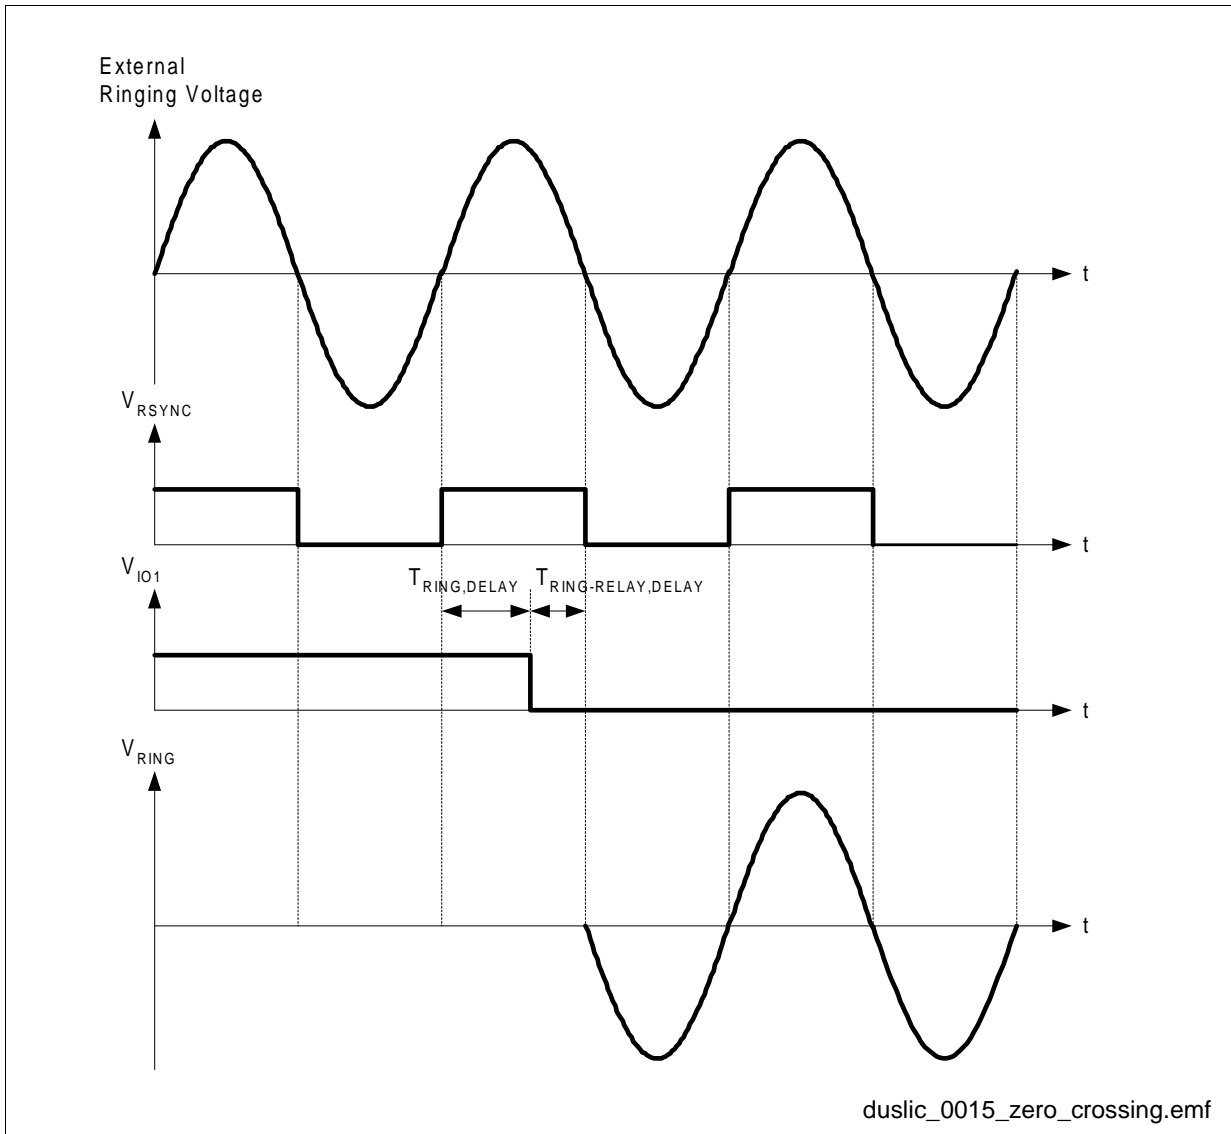

Figure 26 External Ringing Zero Crossing Synchronization
- A TTL compatible zero crossing signal has to be applied to the RSYNC pin of the *SLICOFI-2x* (see Figure 26).
A ring generator delay $T_{RING,DELAY}$ (see DuSLICOS control parameters 2/3) can be programmed to consider the ring relay delay $T_{RING-RELAY,DELAY}$ as shown in Figure 26.